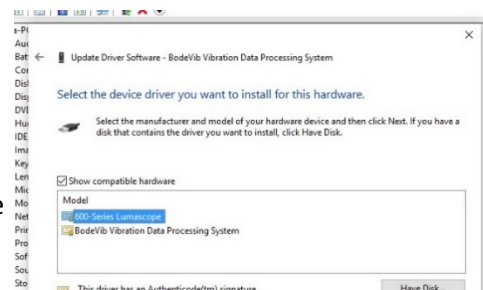

Fig 7. Selecting the **600-Series Lumascope**.
10. The next dialog box that appears will show the choices for the hardware devices (Fig 7). The **Show compatible hardware** box should be checked. Select **600-Series Lumascope** and click **Next**. Windows should now install the LS Microscope driver over the conflicting driver.